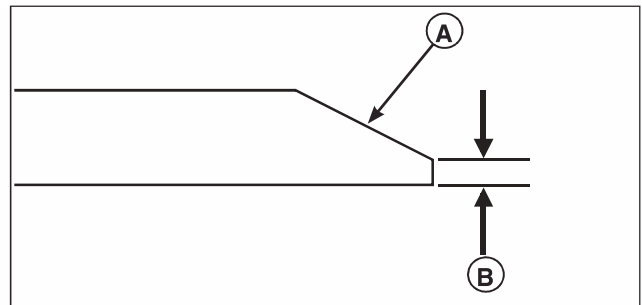

Figure 32. Sharpening the Mower Blade
3. Keep the original bevel (A, Figure 32) when grinding. Do NOT change the mower blade bevel.
4. The mower blade should have a maximum 1/64" (0,40 mm) cutting edge (B) or less.